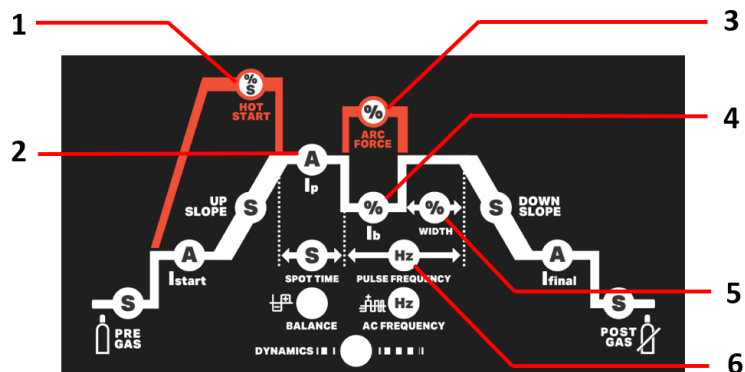

Fig. 2 – MMA parameters
For TP 324-504 ACDC (See items in Fig. 2)
- Adjust the current value to the diameter of the electrode (Fig.2 - 2), according to the following table, to adjust the machines according to the electrode to be used and start welding